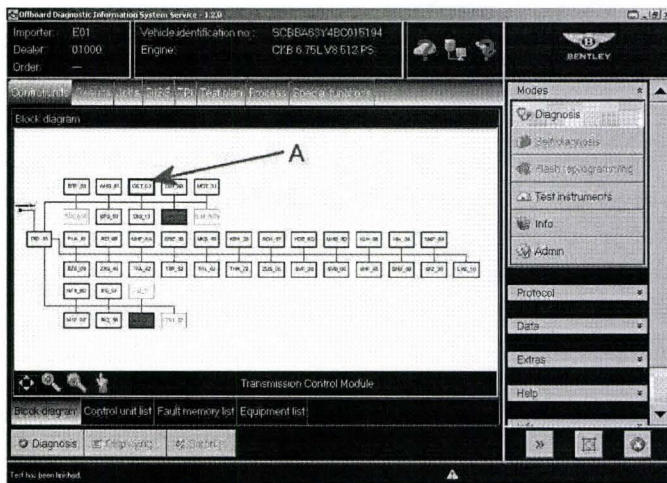

Figure 8
4. Navigate to the Block diagram screen and select Transmission Control Module - GET_02 as shown in Figure 8 (Point A)